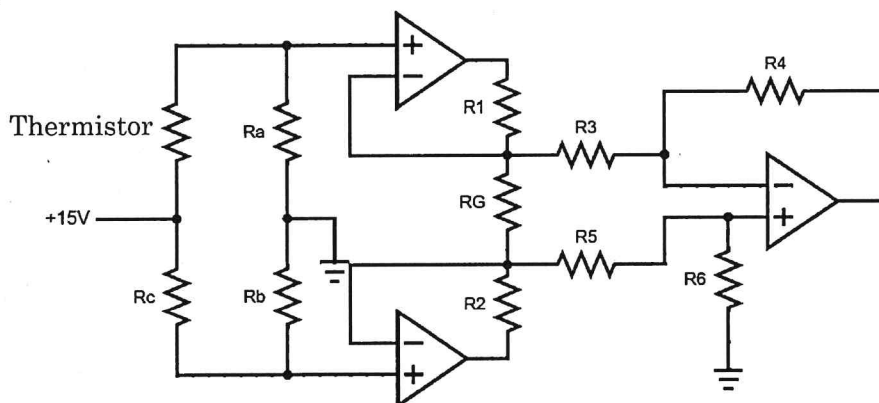

Fig. 3
- (c) The differential output voltage from the bridge circuit contains high frequency signals and therefore it's fed into the input of the instrumentation amplifier circuit as shown in Fig. 3. If $R_1 = R_2 = R_3 = R_4 = R_5 = R_6 = 33k\Omega$, determine the gain resistance R_G that gives $V_o = 7V$. [4mks]